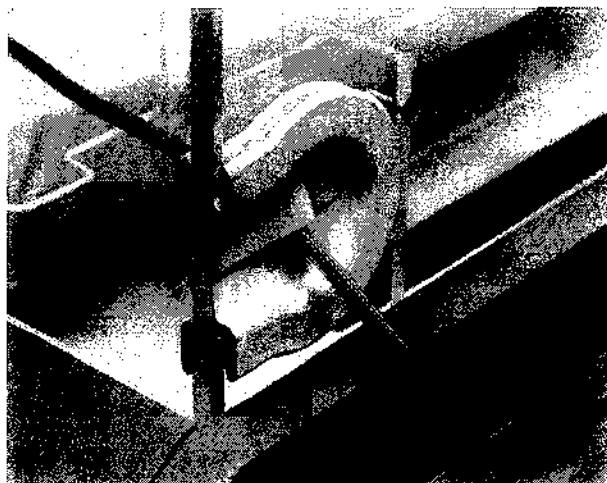

FIGURE 4.9 TUBING ACCESS PORT
***Skin Temperature Control.** Connect the plug of the Skin Temperature Probe to the PATIENT PROBE Receptacle. Insert the probe into the hood compartment through the right Tubing Access Port as shown in Figure 4.9.